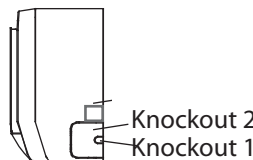

Fig. 17 – Remove Knockouts
1. Use a small saw blade to carefully remove the corresponding plastic covering on side panel and drill the appropriate size hole where the pipe is going through the wall. See Fig. 17.